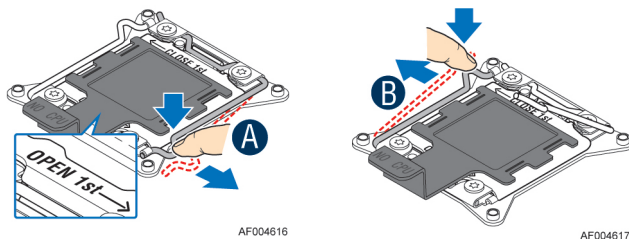

Figure 40. Installing Processor – Open the Socket Lever
2. Open the socket lever, see Figure 40